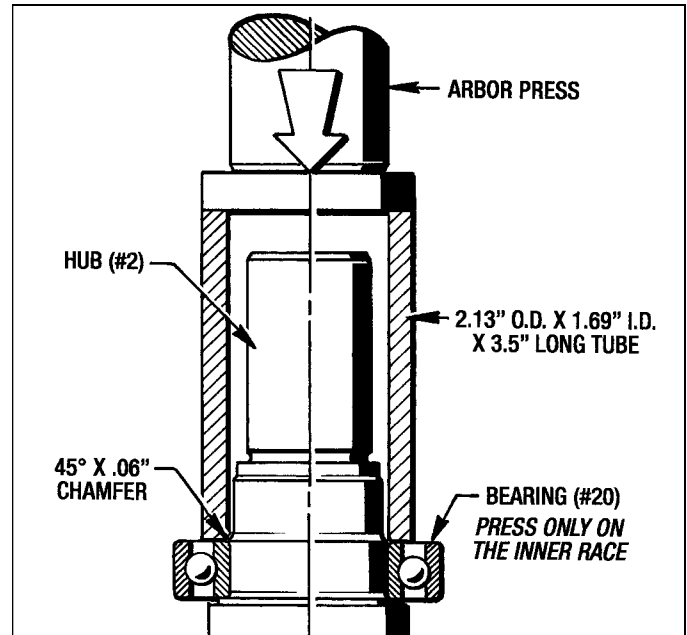

Figure 9.2 - Installing Bearing (#20) on to Hub (#2)
1. Heat up the Bearing (#20) and drop it on to the Hub (#2) or press it on with an arbor press until it seats itself against the shoulder as shown in *Figure 9.2*.